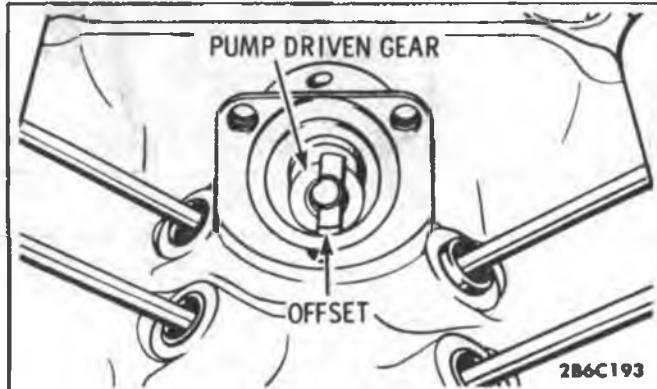

Fig. 2-23 Pump Offset
- Position engine No. 1 cylinder to firing position by aligning the mark on the balancer with zero mark on the indicator located on the front of the engine. The index of the pump driven gear is offset to the right when number one is at T.D.C. (Fig. 2-23).